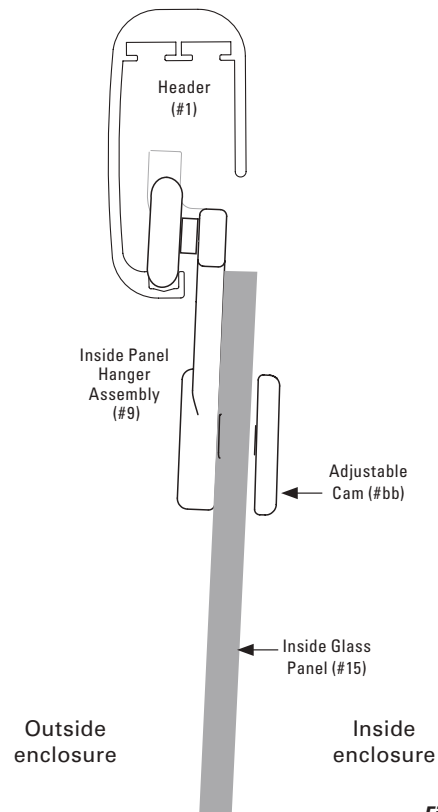

Figure 10
2. Hold the Inside Door Panel so that the Wheels are facing you. Standing outside and facing the tub/shower enclosure, lift the Inside Door Panel up and over the Curb and then insert the Inside Panel Hanger Brackets up into the Header and gently set the Wheels into the track of the Header. Make sure the Panel rolls freely (See **Figure 10**).